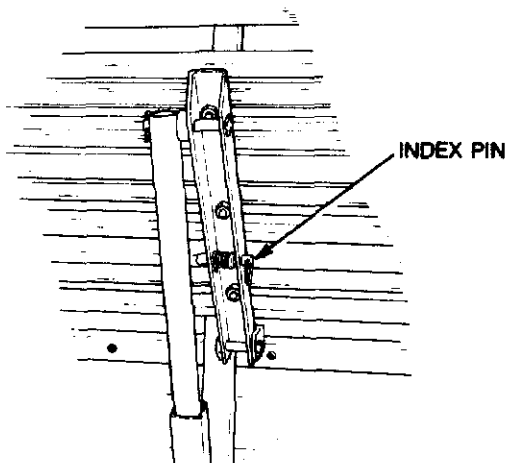

Figure 2-7 Rear seat stowage
- a. Raise the seat to the side and engage the spring loaded index pin in the centre support leg (see Fig. 2-7).